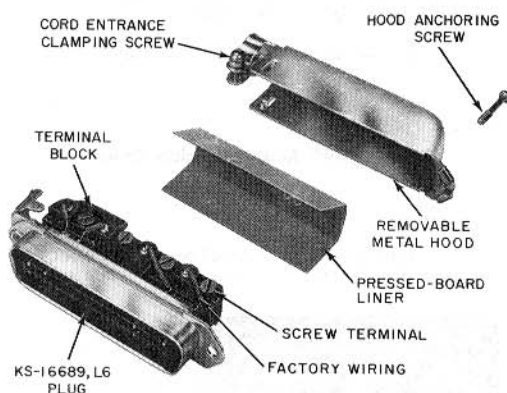

Fig. 10—153A Adapter
- A removable metal hood (Fig. 10) with a pressed-board liner contains and protects spade-tipped cord leads or wire conductors terminated beneath the screw terminals. If the liner is of early production design and has an opening in the top portion, a piece